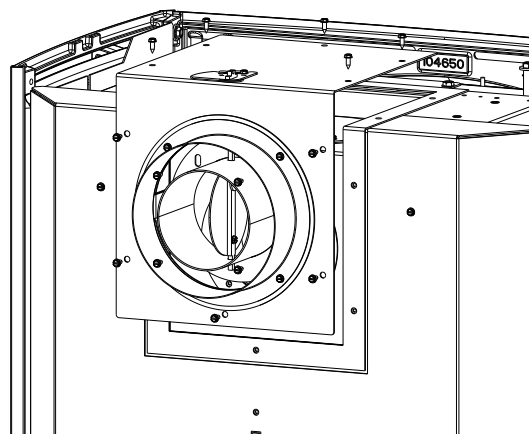

Figure 2.6. Rear exit orientation.
3. Orient the vent adaptor outlet to the rear and secure the assembly using the screws removed previously. Fig. 2.6.